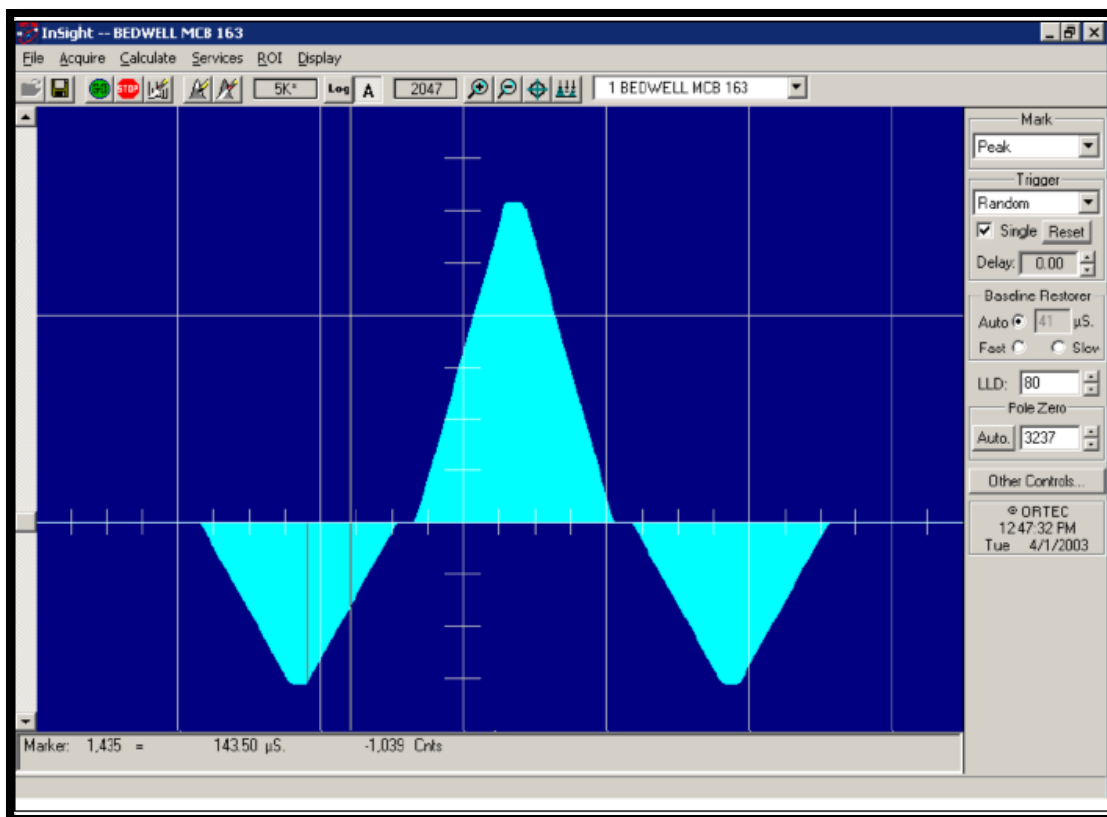

Figure 4. LFR-Enabled Digital Filter
(3) the values measured after the event is detected. The modified trapezoidal digital filter for LFR from an InSight Virtual Oscilloscope trace is shown in Figure 4.